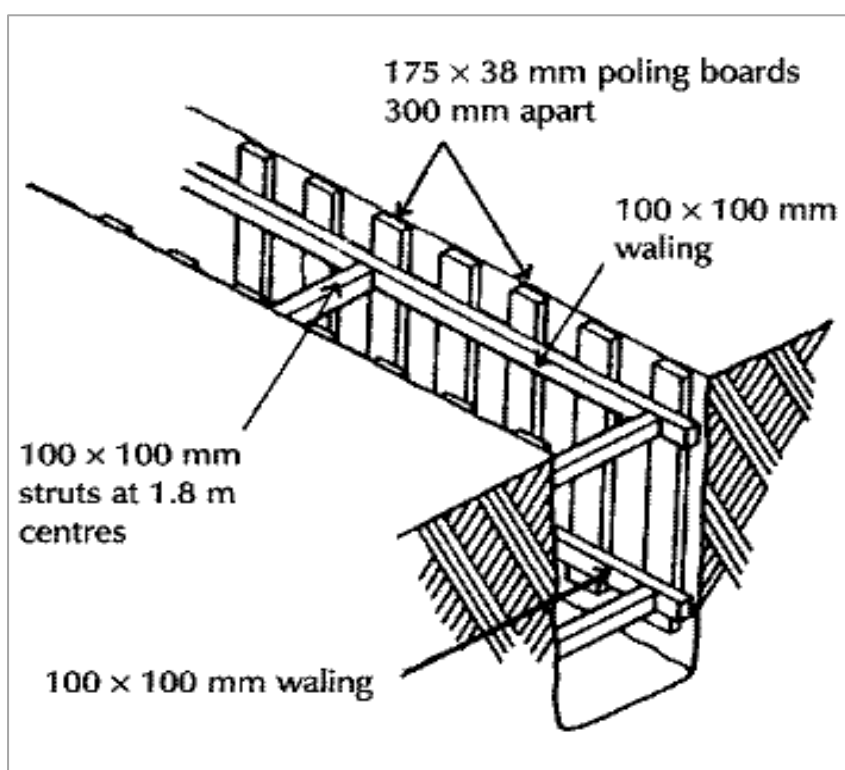

Figure A2.2.4: Typical 220 kV Excavation for Concrete Duct
Following implementation of traffic control measures, the road surface will be saw cut to the width of the trench and excavated using an excavator with hydraulic breaker. Typical noise emissions from saw cutter are in the order of 100 dB and the anticipated duration is approximately 3 hours per day. Trenches are excavated to a specified depth such that sufficient cover is provided in accordance with the required project trench design. Once the desired depth is reached, the trench walls will be either graduated to prevent collapse and to negate the need for trench supports or supported using timber poling boards and walers along with steel trench struts, as indicated in **Figure A2.2.4**. Once a trench of sufficient length (e.g. 20 – 50 m) has been excavated and secured, a layer of Selected Sand (SS), Cement Bound Sand (CBS), Cement Bound Granular Material (CBGM) or Concrete can be poured into the open trench and the ducts arranged in position on top. Following the bedding in of the ducts, additional layers of SS, CBS, CBGM or concrete are added and compacted in accordance with the project specifications. Once the backfill is complete and/or cured, protective tiles and hazard marker tape are installed. The trench is then backfilled and compacted with thermally suitable indigenous material and the road reinstated to the standard agreed with the local authority. The installation is advanced as a set of rolling works between joint bay locations.